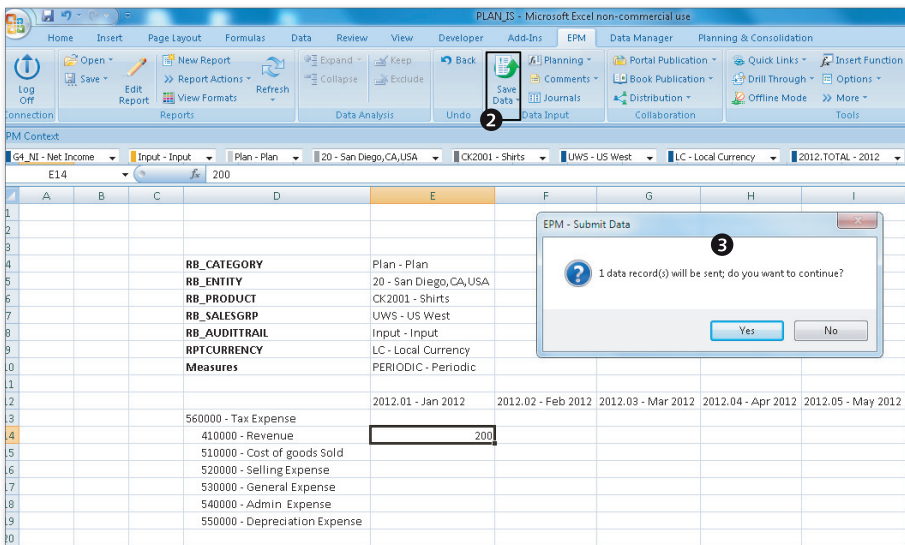

Figure 5.41 Creating an Input Form—Part D
4. Click on the menu option to save the data under the SAVE command. Enter “200” as the amount for JAN 2012. Then click on SAVE DATA, and choose the menu option to save the data (Figure 5.41, 2). The EPM – SUBMIT DATA dialog box prompts you with the number of records that will be sent and requests a confirmation to continue (Figure 5.41, 3).